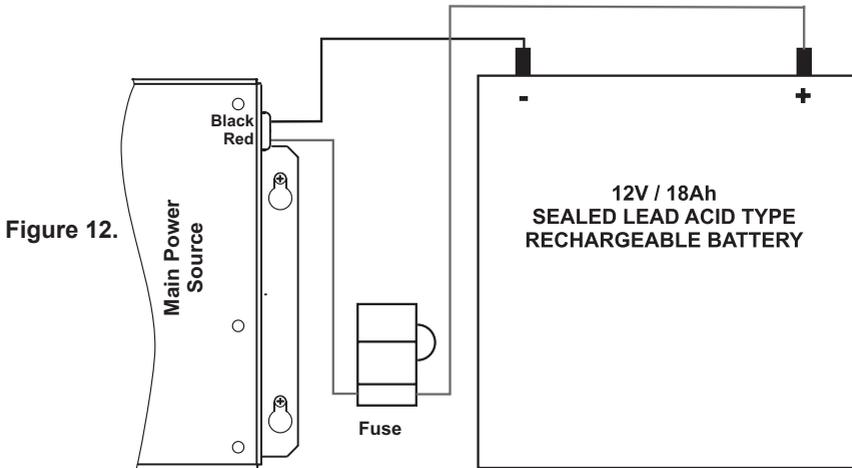

Figure 12.
Note: The accumulator battery fuse is 7A (7,5A), automotive type and is situated in the holder connected to the red cable of the main power source - Figure 12!
- Connect the battery to the power unit terminals - Figure 12 and check the availability and condition of the fuse, a 7A automotive type, located in the clamp.